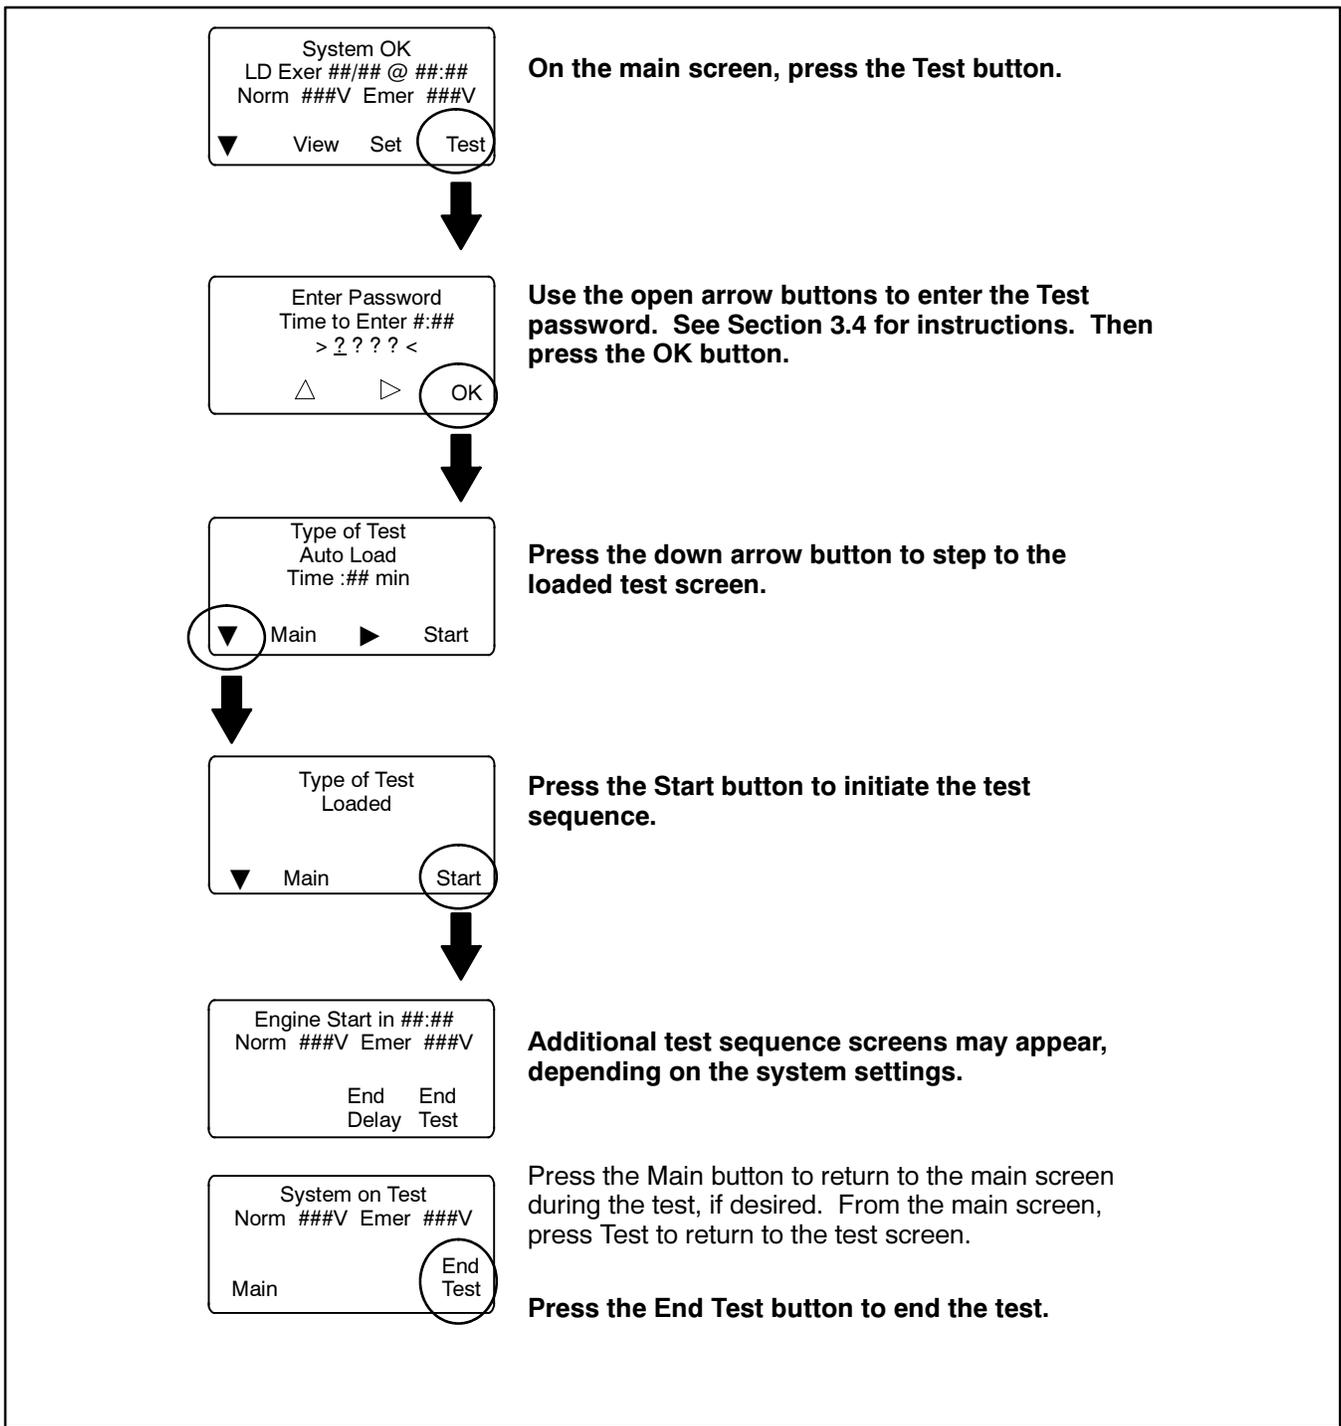

Figure 2-2 Starting and Stopping the Automatic Operation Test
3. Refer to Figure 2-2. From the main screen, press the Test button. Enter the test password when prompted and press OK.